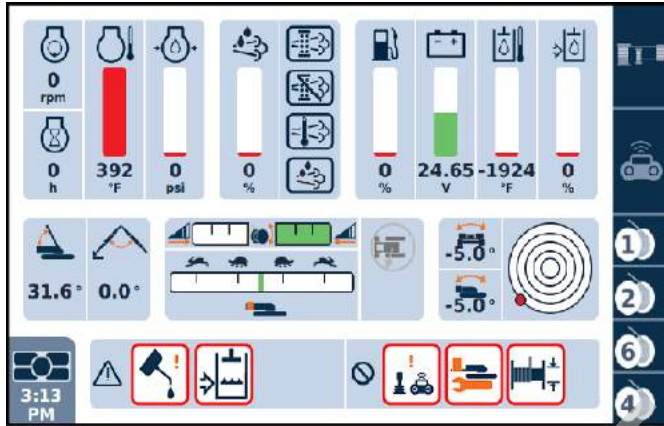

Figure 3-14. Working Screen
11. After the engine is started, the Working Screen shown in Figure 3-14 will appear in the Main Display.